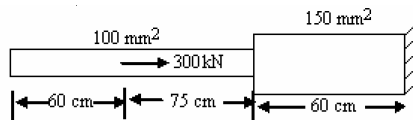

Figure 1
- (b) A stepped bar is subjected to an axial load of 300 kN as shown in Figure 1. Find the nodal displacements, element stresses and strains and reactions. Take $E = 2 \times 10^5 \text{ N/mm}^2$. The cross sectional areas are 100 mm^2 and 150 mm^2 . [7M]